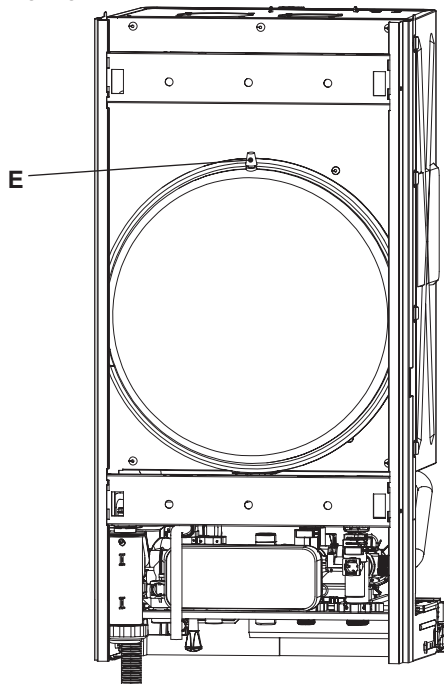

Figure 13.1 Rear view of the boiler
- 2 Remove the protective cap E (Figure 13.1) from the valve on the top of the expansion vessel and connect a suitable air pressure gauge.